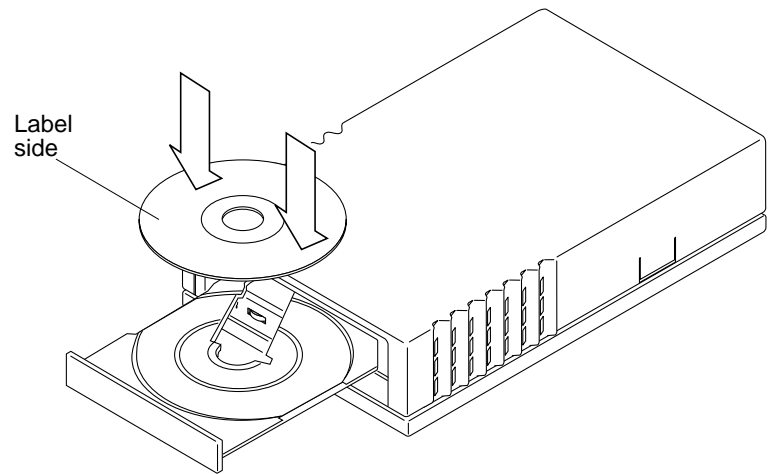

Figure 1-1 Inserting a CD into the CD-ROM Drive
2. Place the CD, label side up, into the tray (Figure 1-1).